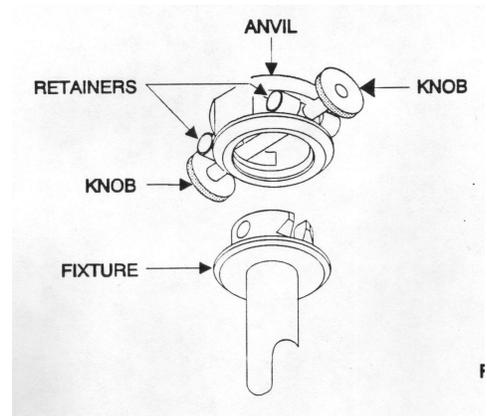

Figure 2 – Fixture and anvil
7. Loosen the knob on the anvil and remove the upper fixture. (Figure 2)